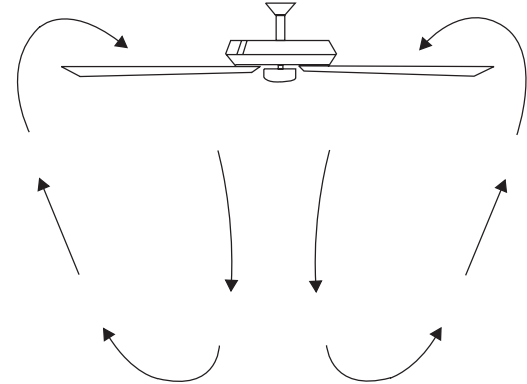

Fig. 32
**Warm Weather Operation:** Forward (counter clockwise). A downward airflow creates a cooling effect (Fig. 32). This allows you to set your air conditioner on a warmer setting without affecting your general comfort.